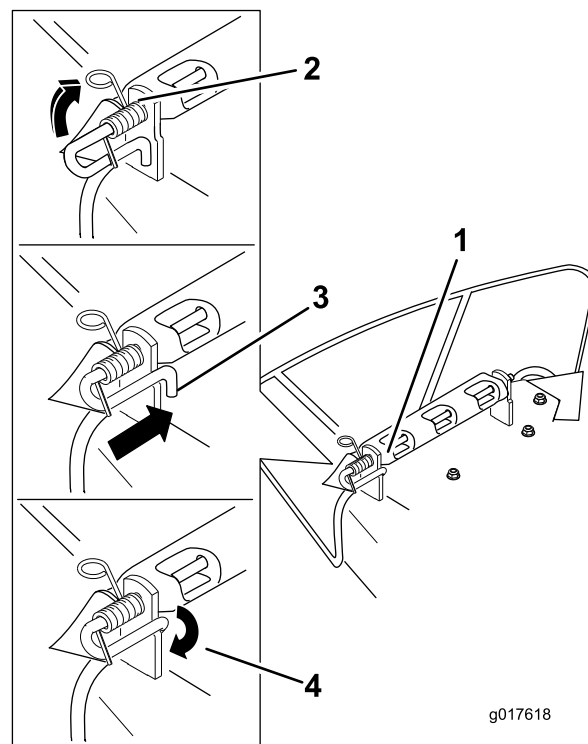

Figure 61
4. Lift the loop end of the spring and place it into the notch on the deflector bracket (Figure 61).
5. Secure the rod and spring assembly by twisting it so the short end of the rod can be placed behind the front bracket welded to the deck (Figure 61).